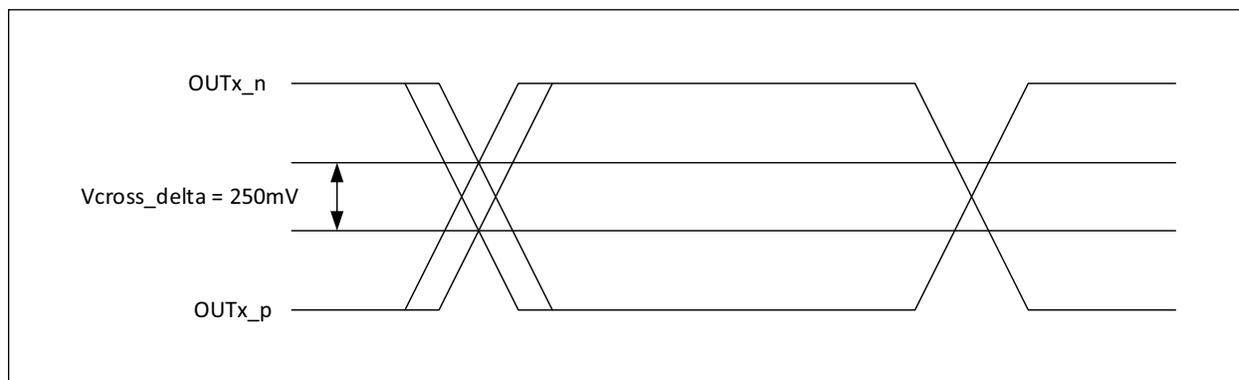

FIGURE 4-2: Single-Ended Measurement Points for Delta Cross Point.
- 9:** Defined as the total variation of all crossing voltages of Rising CK and Falling CK# This is the maximum allowed variance in V_{CROSS} for any particular system. See Figure 4-2.